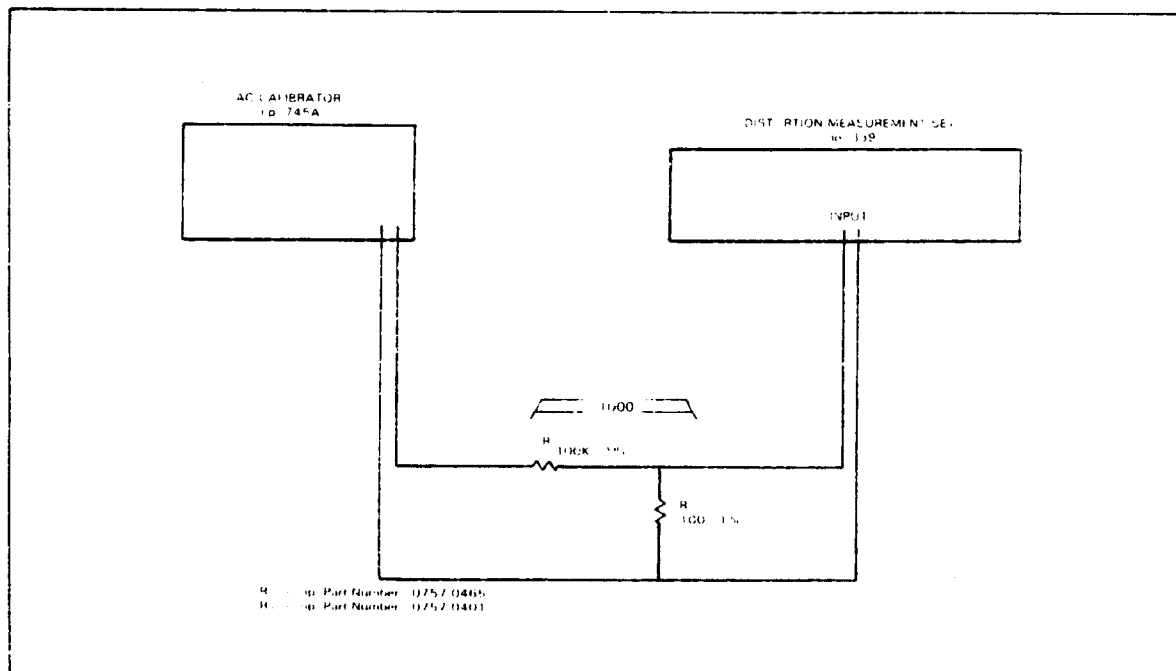

Figure 4-1a. Full-Scale Accuracy and Frequency Response Test Equipment Set-up For Option 001.
b. Set-up the test equipment as shown in Figure 4-1a.